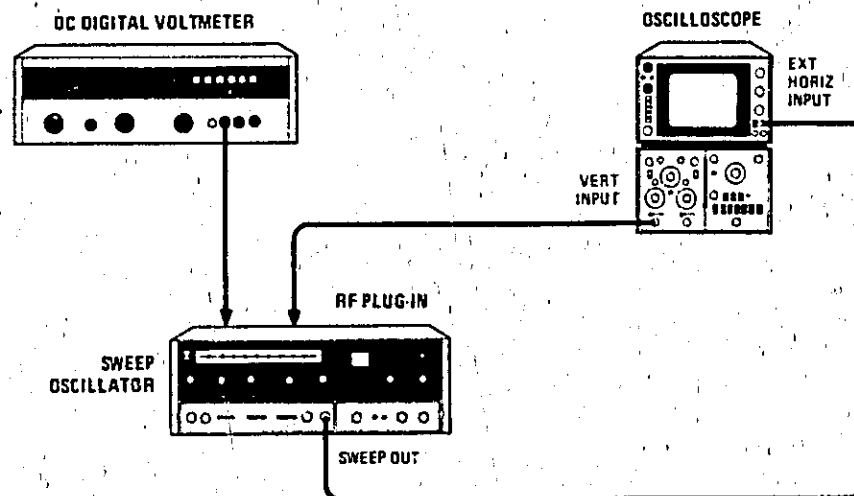

Figure 5-3. Adjustment Test Setup
5-2. This section provides adjustment procedures for the Model 8620C Sweep Oscillator mainframe. These procedures should not be performed as a routine maintenance procedure but should be used (1) after replacement of a part or component, (2) when the performance test shows that the specifications of Table 1-1 cannot be met, or (3) when instructed to do so in the troubleshooting chart in Section VIII. The test setup for the adjustment procedure is shown in Figure 5-3. Table 5-1 lists the adjustment controls and the function of each control.
The A4 and A5 Regulator Assemblies are adjusted to provide the proper dc voltages for the 8620C Sweep Oscillator and RF units connected in the mainframe. (See Figure 5-3 for test setup.)
Fan Speed and ON/OFF ratio are adjusted for maximum efficiency. (See Figure 5-3 for test setup.)
1 kHz Oscillator is adjusted for proper operating frequency. (See Figure 5-3 for test setup.)
Set correct sweep time, sweep return time, symmetry, and range of RF Blanking signal. (See Figure 5-3 for test setup.)
- a. Connect equipment as shown in Figure 5-3.